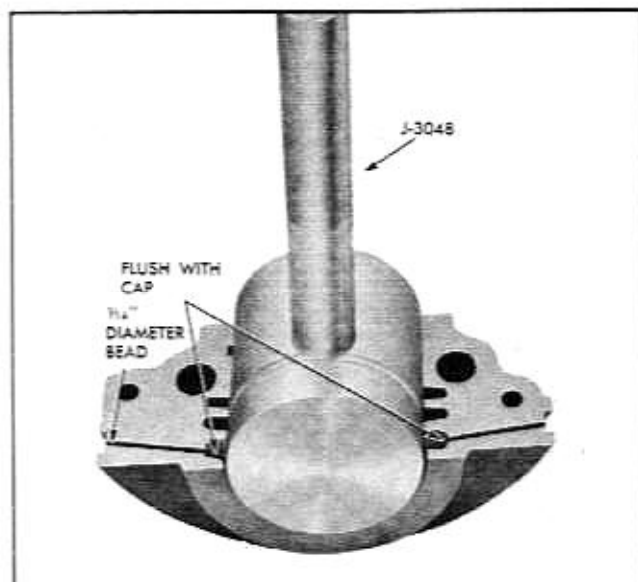

Fig. 6-34 Lower Seal Installed in Bearing Cap
10. Install a new seal in rear main bearing cap using Tool J-3048-A to pack seal tightly. Be sure to pack seal tightly into groove and trim flush with cap (Fig. 6-34).